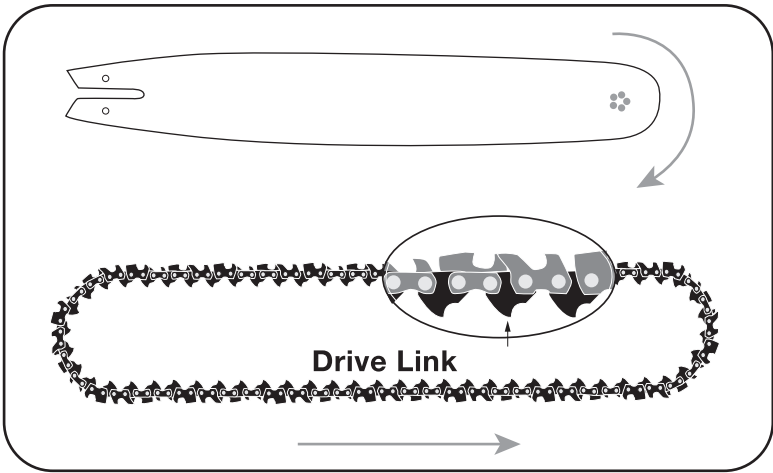

Figure 3
4. Spread saw chain out in a loop with cutting edges of chain pointing clockwise around loop as shown in Figure 3.